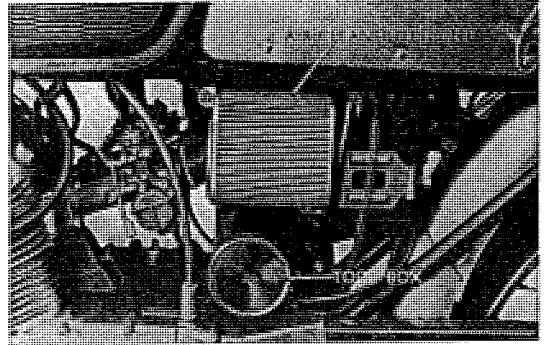

Fig. 4.55 Air cleaner
1. Insert the exhaust pipe into the muffler. (Refer to Fig. 4.55)
Filter paper is employed in the air cleaner for increasing the filter performance by enlarging the surface area. As two carburetors are employed, air cleaners are employed on both the right and left sides. (Refer to Fig. 4.55)